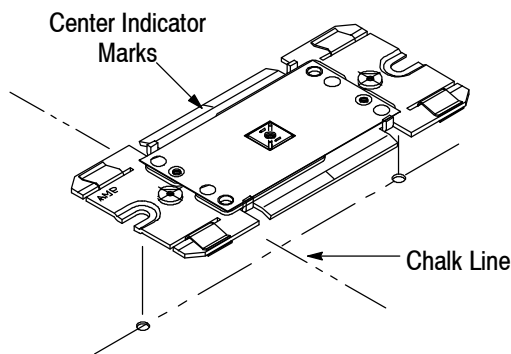

Figure 2
1. Center the mounting plate on a chalk line using the center indicator marks. Use the mounting plate as a template to mark the mounting hole locations. Prepare the surface (drill holes for the customer-supplied mounting hardware and vacuum debris). See Figure 2.